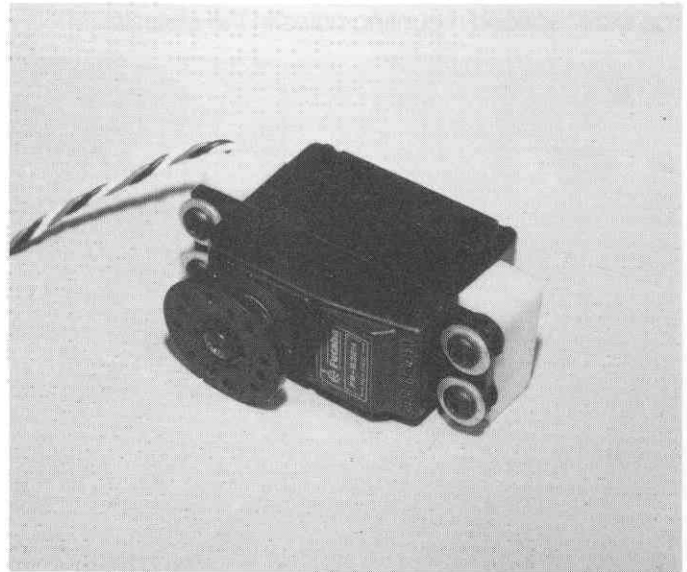

Fig. 150
□ **Fig. 150** The throttle resistor servo shown here is an S32. Assemble the servo mounts, as you did in step 141, except this servo is placed in the direction shown.